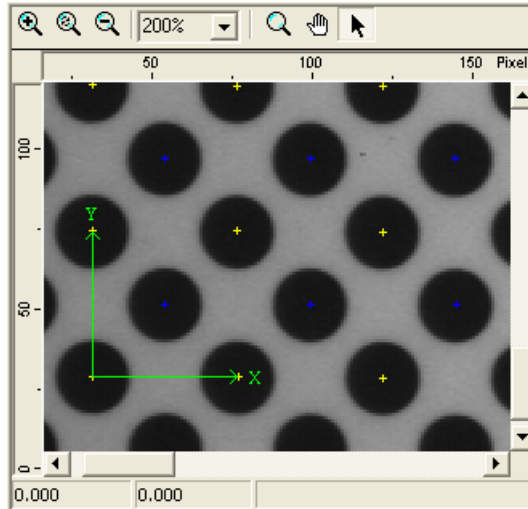

Figure 47 Zoom-in on the Coordinate Marker in the Calibration Dialog
9. Zoom in at the lower left corner of the display. A green coordinate system marker should be displayed in the bottom left, as in Figure 47. Note that this coordinate system is displaceable programmatically or with the mouse; leave it as is for this tutorial.